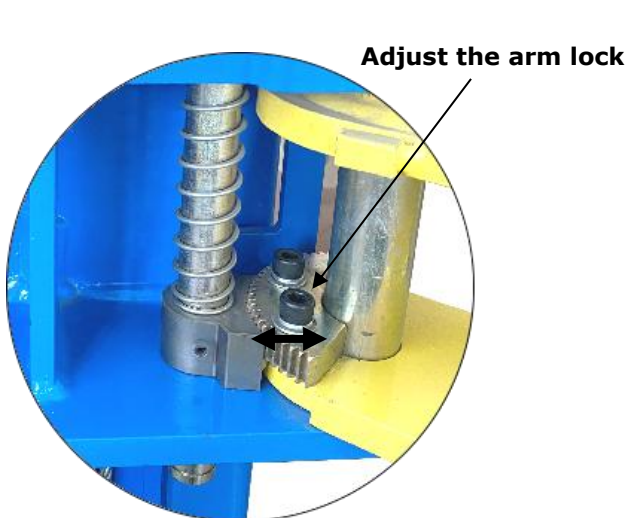

Fig. 39
3. Adjust the arm lock as direction of arrow (**See Fig. 39**)